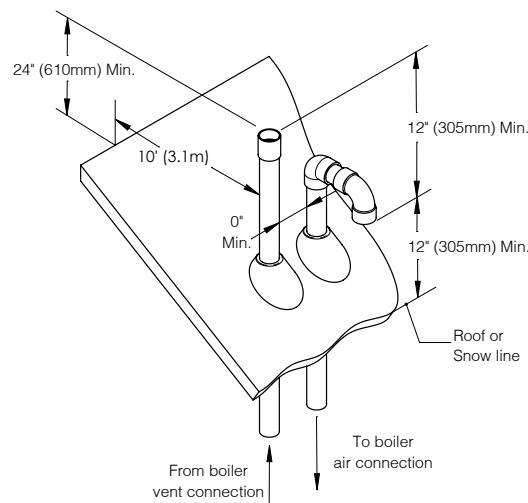

Figure 9-1: Fittings Terminal
1. Vent terminates outside building in coupling or end pipe pointing upward. Air terminates outside building in downward-facing elbow. Use two 90° elbows or 180° bend for air terminal. Air terminal may be to left, right, or below vent terminal as long as clearances in Figure 9-1 are maintained.